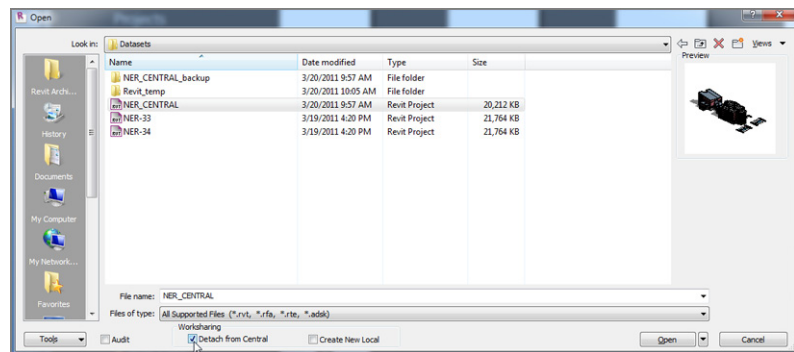

FIGURE 22.18: Detaching from Central
4. Instead of selecting Create New Local, click Detach From Central, as shown in Figure 22.18.